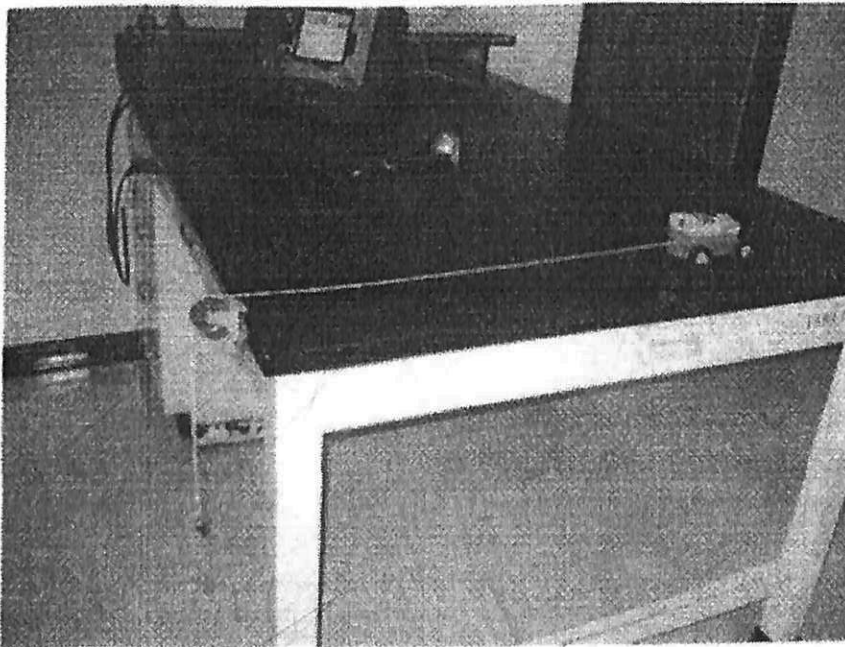

Figure 4.4.1: Experiment arrangement
4. Experimental setup is shown in Figure 4.4.1.